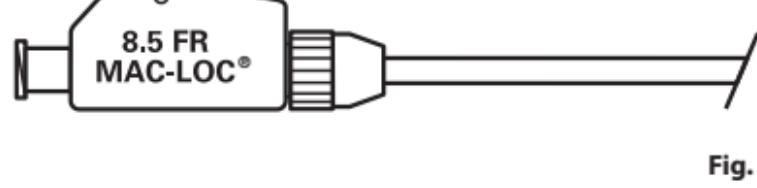

Fig. 3
- c. Trim off the excess suture. (**Fig. 3**)